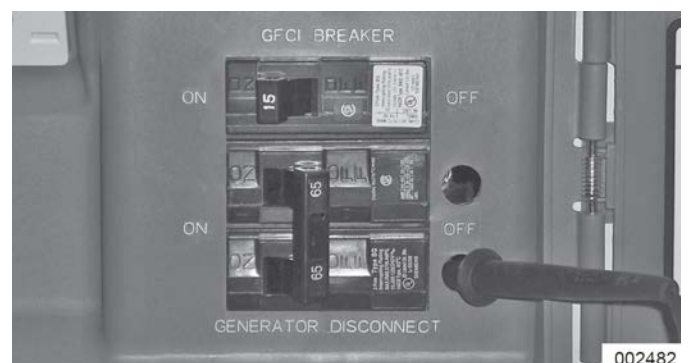

Figure 2-11. MLCB Test Points Pre 2016 Units
2. See **Figure 2-11**. With the engine shut down, connect the meter test leads across the load terminals of the generators MLCB. This will measure line-to-line voltage.
- b. If utility is present disconnect wire 23 from customer connection deck in generator, verify transfer switch is in the utility position, then close the MLCB on the generator and verify proper voltage output at the MLCB test points. See Figure 2-11.